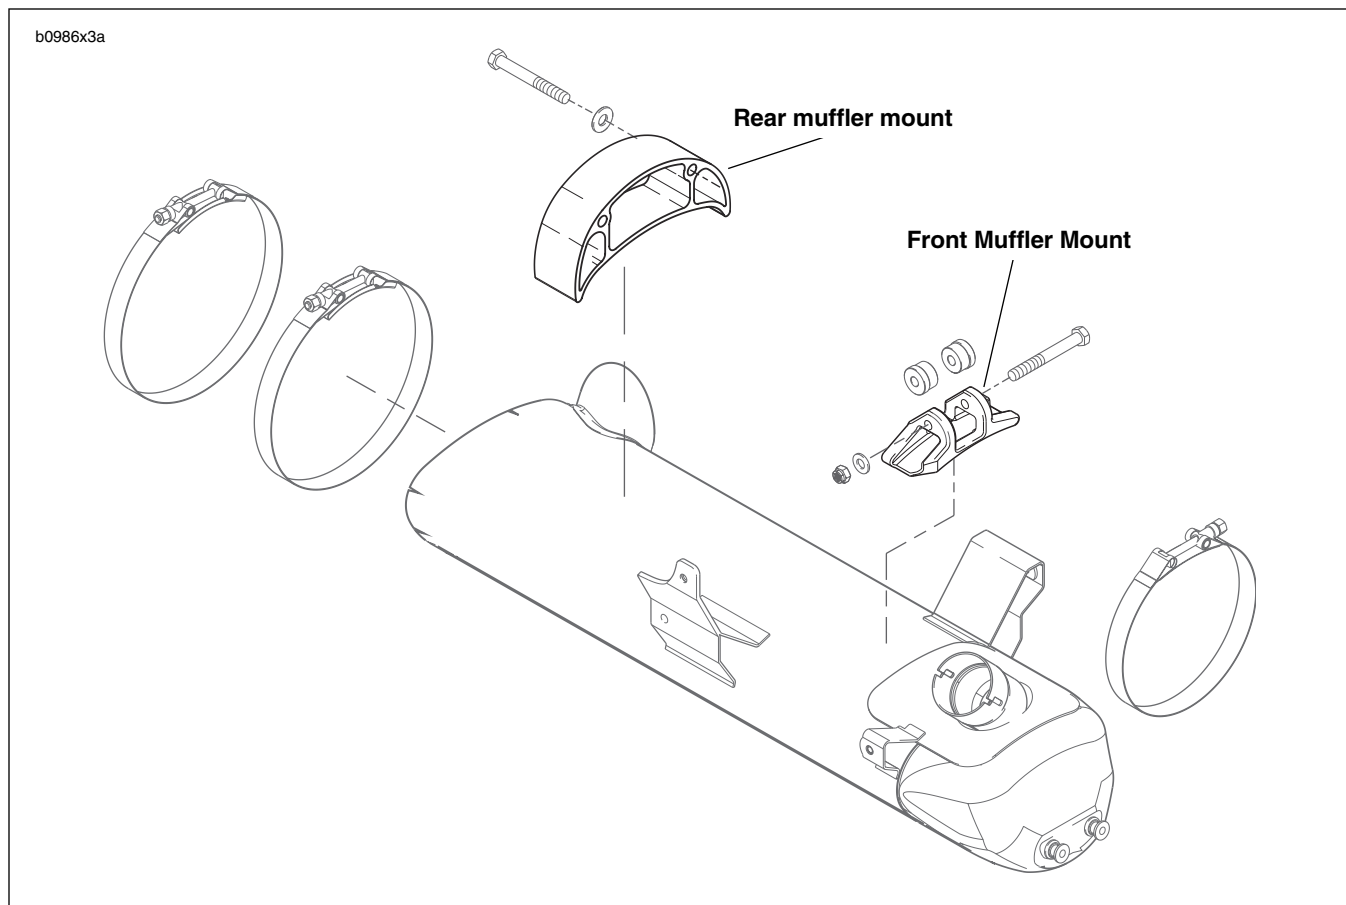

Figure 3-45. Muffler Mounting System (XB9R)
19. See Figure 3-45. Install rear muffler bracket and torque to 32-36 ft-lbs (43.4-48.8 Nm).